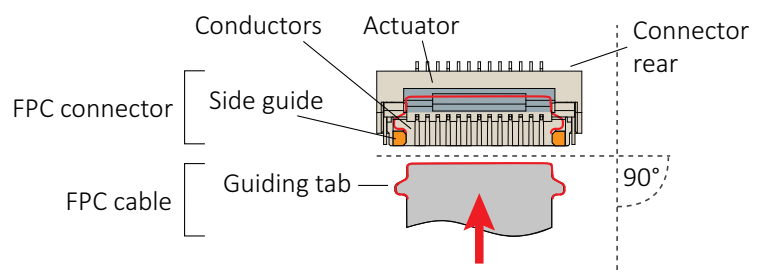
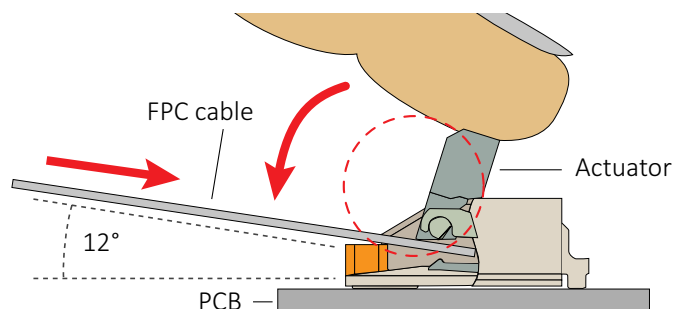

Figure 95: FPC cable and FPC connector
Figure 96: Engaging the FPC cable in the FPC connector
2. **Ensuring proper cable direction between host and camera**, take the FPC cable with conductors facing the FPC connector conductors (see Figure 95).
At a horizontal angle of 90 degrees to the connector's rear (see Figure 95) and at a vertical angle of 12 degrees to the PCB (see Figure 96), slowly insert the FPC cable into the actuator...
4. ...until cable guiding tabs are caught between connector rear and side guides (see Figure 95). Pull the cable slightly to ensure guiding tabs are properly engaged.
5. Holding the FPC cable in position, flap down the actuator to closed position (see Figure 96).